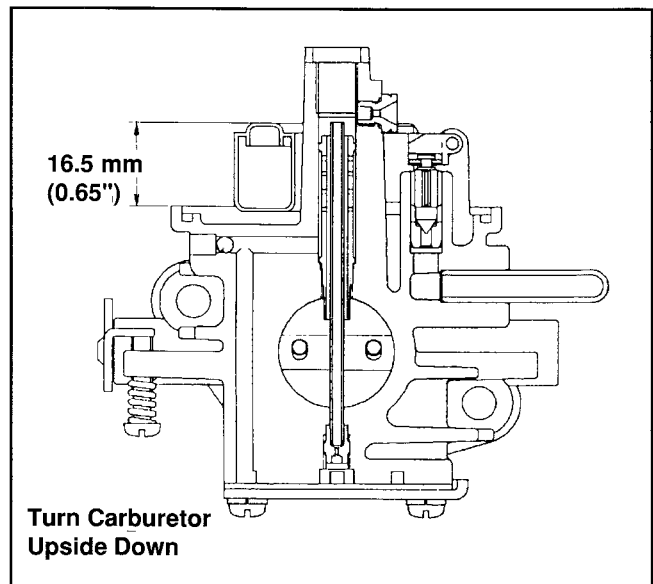

Figure 5-6. Proper Float Level.
6. Turn the carburetor body upside down and check level of the float as shown in Figure 5-6. With the float needle valve fully seated, 16.5 mm (.65”) should be measured from the body to float as indicated. Don’t attempt to adjust by bending the tab -- replace float with kit if level is wrong.